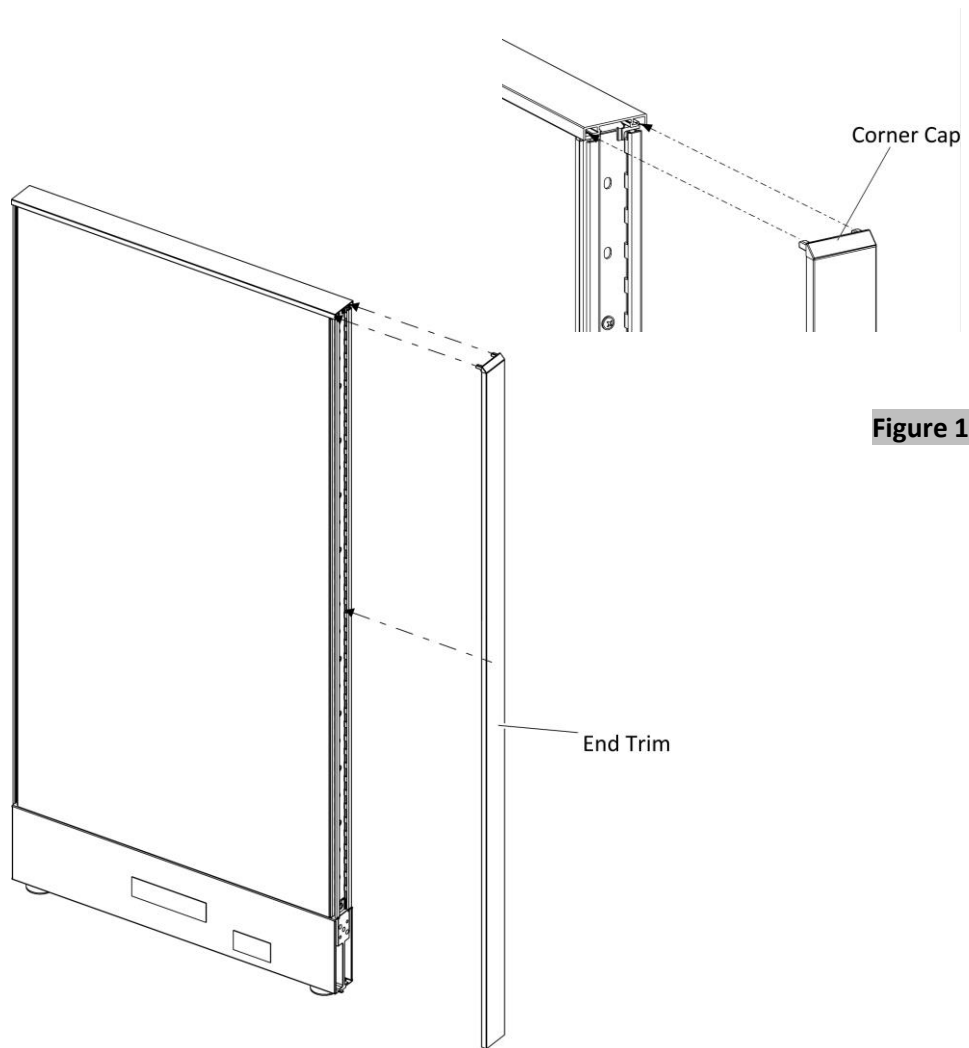

Figure 1
- 1. Install end trim by inserting the corner cap with end trim into the top trim and pressing the end trim into the vertical extrusion, (Figure 1).